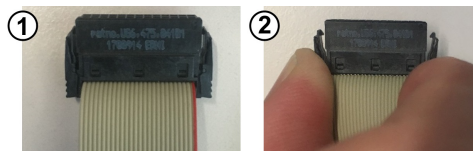

Figure 3-24: To attach or release the cable, press the latches on the sides of its connector
10. **NOTICE!** Avoid bad connector mating. Each module is connected to the switch unit by one or two 26-pin flat-ribbon cables (up to 28 V DC, Figure 3-24). The connector shape serves as protection against reversed (180° rotated) connector mating. Nevertheless, if you use increased force, you can mate the flat-ribbon cable's connector in reversed orientation. This bad connection can damage the electronic components of the switch unit and the module. It can damage also the connector pins.